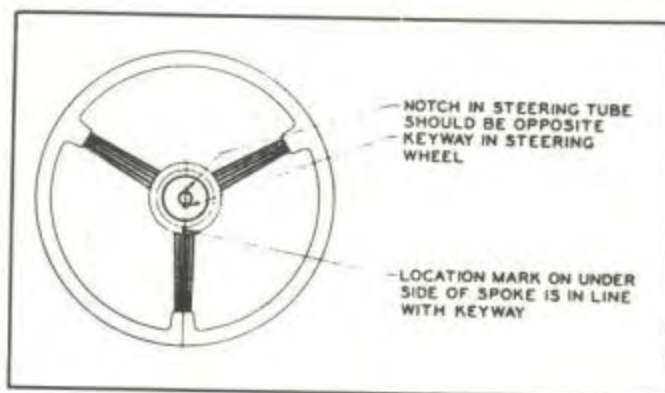

Figure 2
1. That notch in steering tube is opposite to keyway in steering wheel. (See Figure 2 of this bulletin which replaces Figure 9-11 in the Shop Manual).